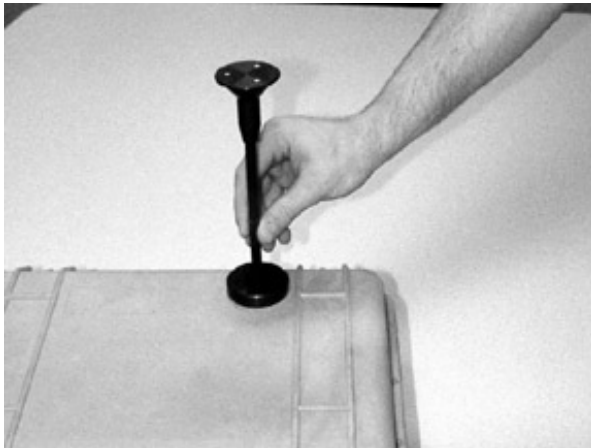

Figure B-4: Thread the Inlet into the Inlet Ring
- Thread the inlet assembly into upper inlet ring found on the top of the Environmental Enclosure (See Figure B-4).